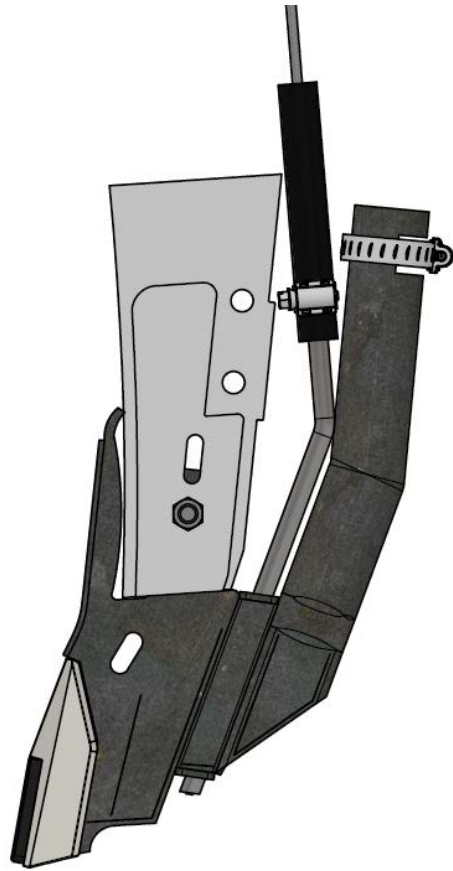

Figure 5: Install protective cover and granular tube
- 6) Slide the ½" protective NH3 tube (not supplied) over the MaxQuip connection as seen in Figure 5